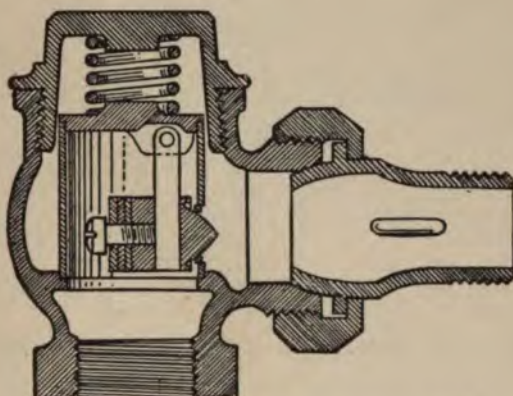

Fig. 107.—Impulse Valve—Gorton System.
A. A special valve called an automatic drainage or impulse valve is placed at the end of each radiator to connect it with the return, the seat of which is made considerably smaller than the pipe connection. Fig. 107 shows the construction of this valve. The seat is inserted at such an angle as to prevent wedging or sticking and will pass the ordinary dirt in the system without trouble. A cone projects from the disc of the valve into the opening of the seat and a counterweight is applied in such a manner that